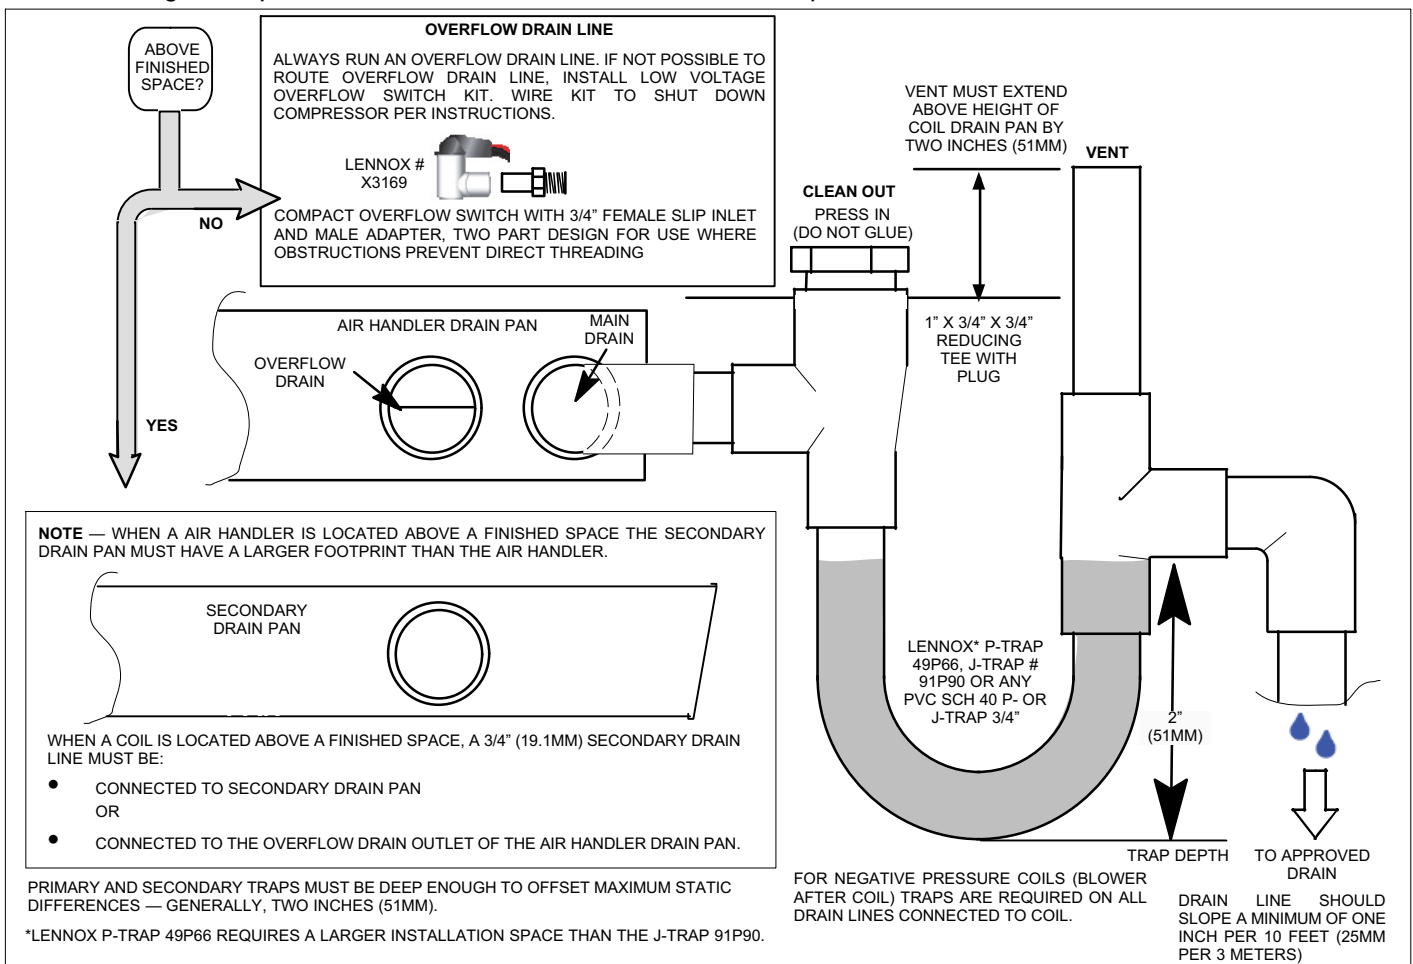

Figure 9. Typical Main and Overflow Drain
7. Install a 2" trap in the primary drain lines as close to the unit as practical (see figure 9). Make sure the top of the trap is below the connection to the drain pan to allow complete drainage of the pan.
NOTE — Horizontal runs must have an anti-siphon air vent (standpipe) installed ahead of the horizontal run (See figure 9). An extremely long horizontal run may require an oversized drain line to eliminate air trapping.